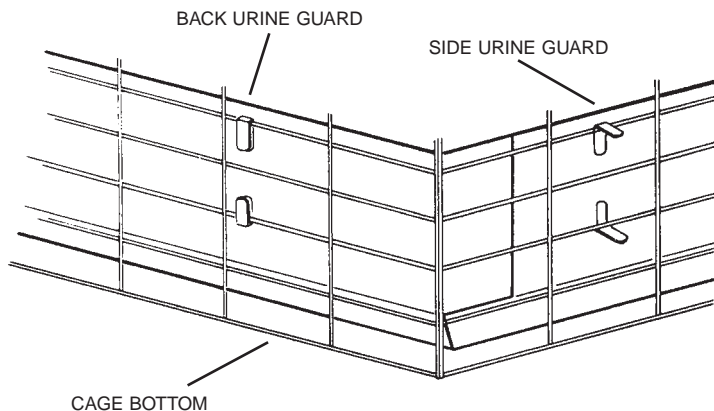

Figure 2
Feeders allow convenient filling from outside the hutch. Cut wire the same width of feeder as shown in figure 2. Insert feeder trough into hutch and hook to hutch wire.
Step 1: Lift tabs on all three Urine Guards, as illustrated on side Urine Guard(see fig. 2)
Step 2: Install Back Urine Guard inside cage. Back Urine Guards have bends at each end (see fig. 2). Bend tabs back over wire.